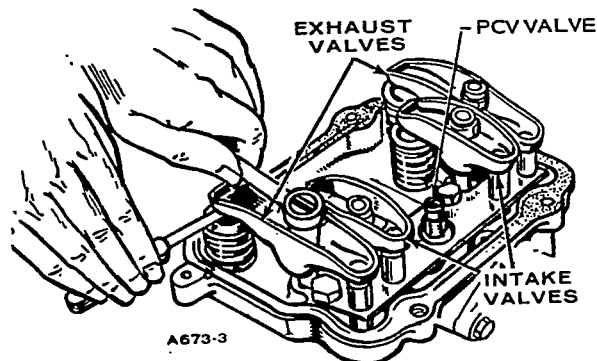

FIGURE 66. SETTING VALVE CLEARANCE
4. Using a feeler gauge, check the clearance between the rocker arm and the valve (see Figure 66). Increase or reduce the clearance until the proper gap is established, adjusting with the locknut which secures the rocker arm to the cylinder head. Refer to Table 4 for correct valve clearance setting for your particular engine.